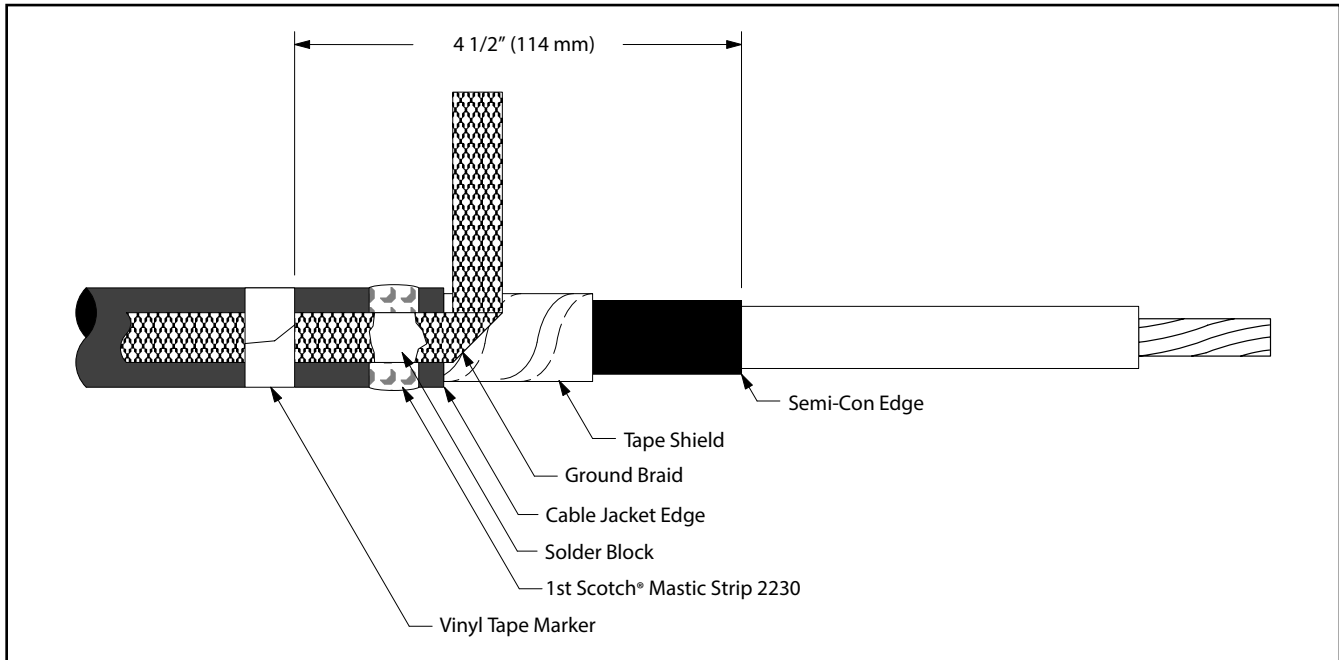

Figure 3
- 3.2 Position pre-formed ground braid with short tail over tape shield directly adjacent to cable jacket cut edge. PLEASE NOTE: The ground braid needs to make full contact with the metallic tape shield. Position long tail of ground braid, extending over cable jacket with solder block over mastic strip (Figure 3). Secure ground braid to cable jacket 4 1/2" (114 mm) from cable semi-con edge using vinyl tape (Figure 3).